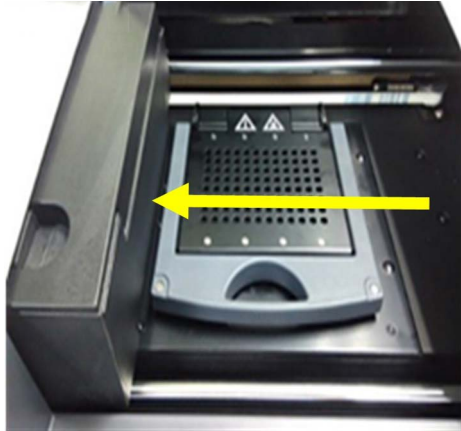

Figure 1 Optical module housing carrier pushed to the left-most position.
- 2 Open the instrument door and slide the optical module housing carrier to the left-most position (see Figure 1).
- 2 Open the instrument door and slide the optical module housing carrier to the left-most position (see Figure 1 on page 3).